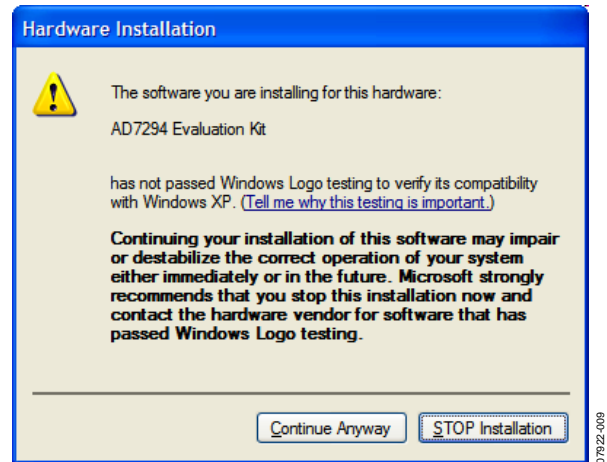

Figure 9. Expected Warning Message
- A warning message appears (see Figure 9), indicating that the new hardware you are installing (AD7294 evaluation kit) has not passed the Windows logo testing to verify compatibility with Windows XP. This error appears because this is an evaluation setup installation and is not meant to be used in a production environment.